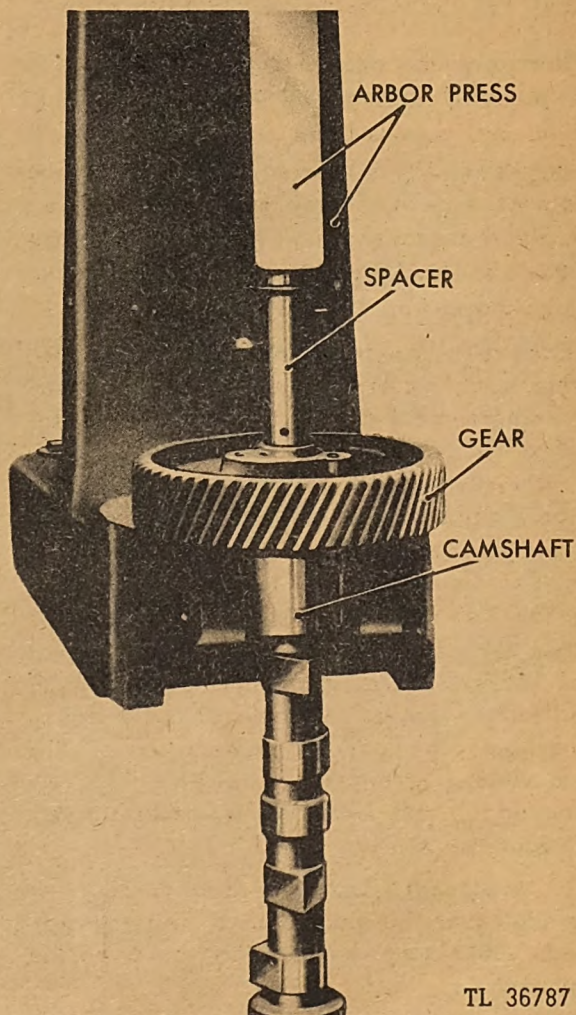

Fig. 135. Pressing Off Cam Gear from Shaft
**c. Replacing Cam Gear.** To replace the cam gear with the camshaft removed from the engine, remove the retaining clip from the end of the camshaft as shown in Figure 134. With an arbor press, press the camshaft out of the gear as shown in Figure 135.